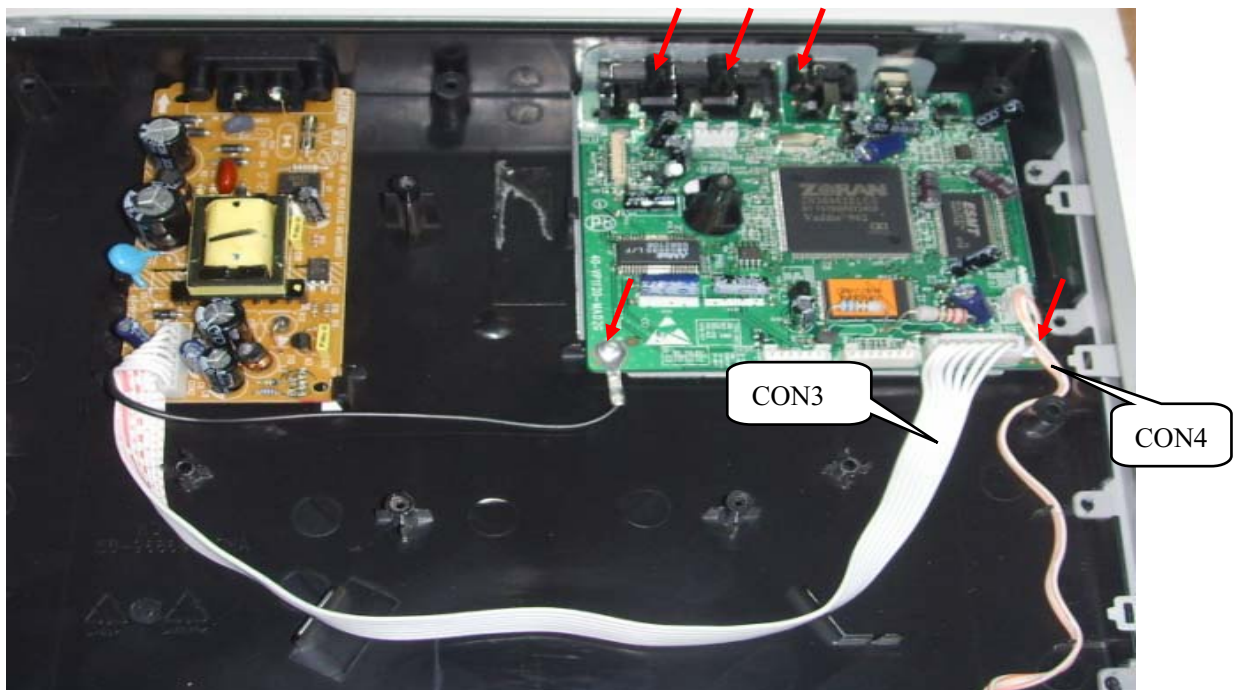

Figure 6
Step4: Dismantling main board: disconnect the 2 connectors aiming in the figure and 5 screws, then can remove the main board. (Figure6)